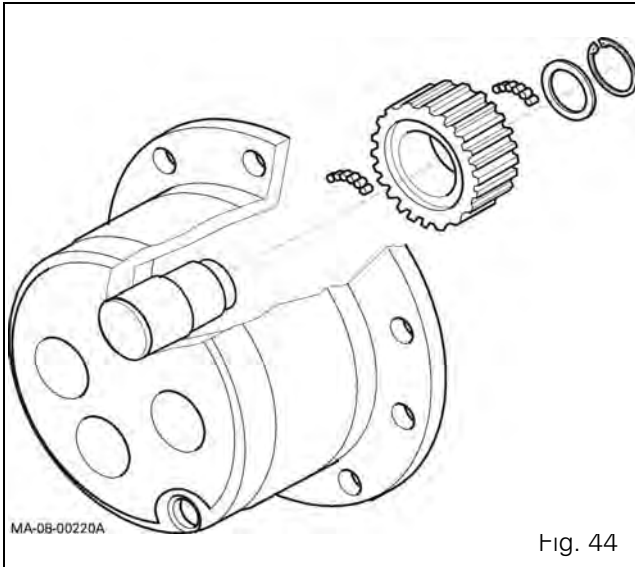

Fig. 44
41. Recover all final drive parts (Fig. 44).